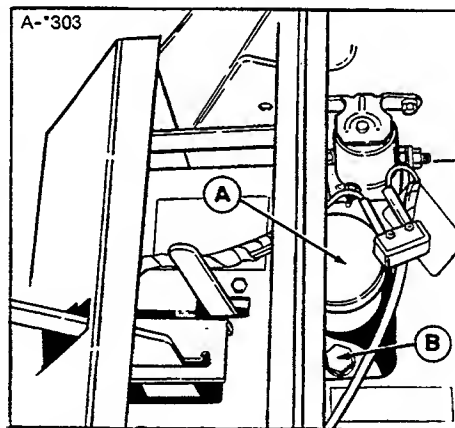

Figure 20. Hydrostatic Reservoir
3. The fluid level is visible in the reservoir (figure 20) without removing cap. The level should be at COLD level mark. If not, go to step 4.
4. Remove the reservoir cap. Add oil (see your dealer). Remove inspection plug (B, figure 20) when adding oil to reservoir. If the oil is black or milky, see your dealer to determine cause.